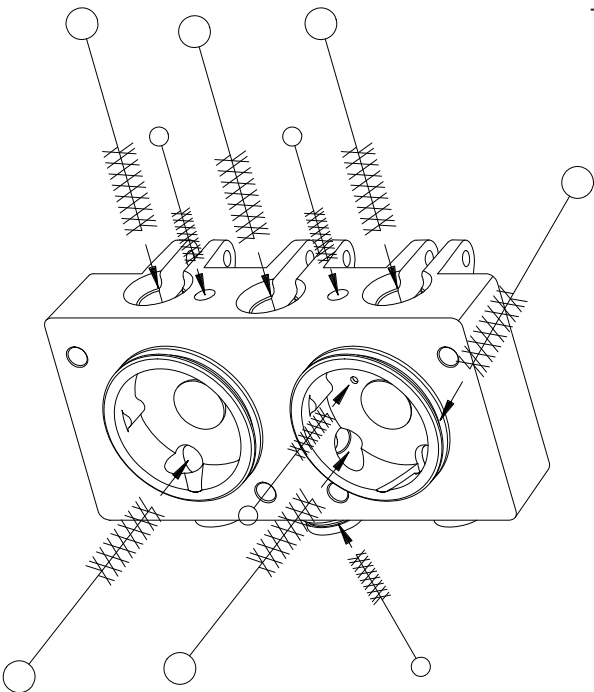

Figure 6-6 Clean head ports and openings with brush.
b. The head plunger openings, center plunger ports, O-ring grooves, dispense nozzle mounting rings, and mix ports, as shown in figure 6-6.